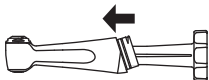

Fig. A-1
- 2) Insert the wrench firmly into the rear of the handpiece head until it stops, as shown in Fig. A-1.